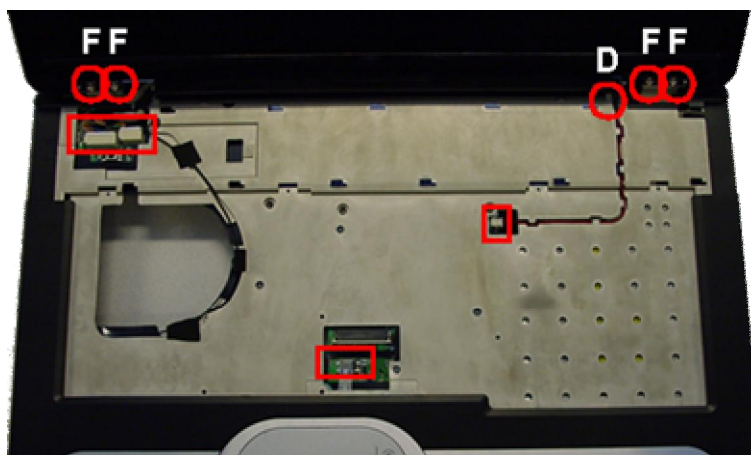

Fig. 13 Lid switch and hinges.
3. Remove the screws (4xF) from the hinges (see Fig. 13).